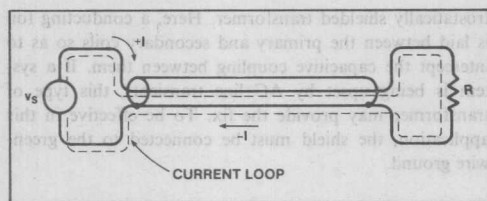

Figure 5. External to the Shield,  $\phi=0$
**The Coaxial Cable** — Figure 5 shows a coaxial cable carrying a current  $I$  from a signal source to a receiving load. The shield carries the same current as the center conductor. Outside the shield, the magnetic field produced by  $+I$  flowing in the center conductor is cancelled by the field produced by  $-I$  flowing in the shield. To the extent that the cable is ideal in producing zero external magnetic field, it is immune to inductive pickup from external sources. The cable adds effectively zero area to the loop. This is true only if the shield carries the same current as the center conductor.